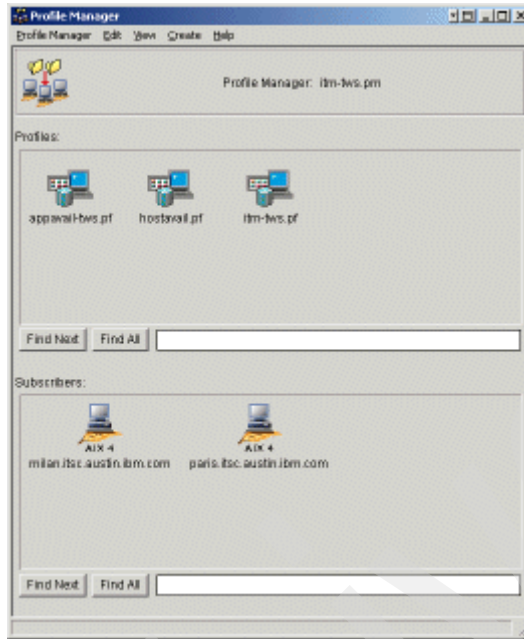

Figure 9-119 Configured itm-tws.pf profile in itm-tws.pm profile manager
9. Select **Close**. You are returned to the Profile Manager window for the itm-tws.pm profile manager, as shown in Figure 9-119 on page 520.